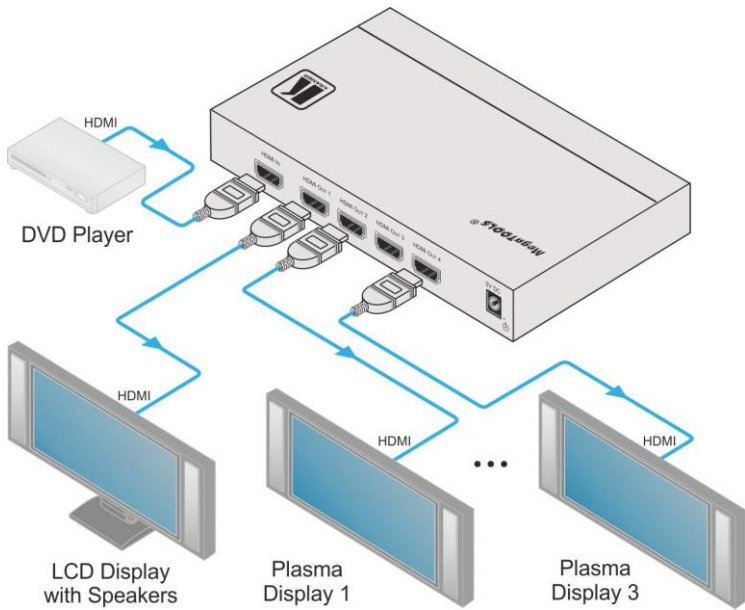

Figure 2: Connecting the VM-4UHD 1:4 HDMI DA
Connect the **VM-4UHD** as illustrated in the example in Figure 2:
3. Connect the 5V DC power adapter to the power socket unit and then connect the adapter to the mains electricity (not shown in Figure 2).